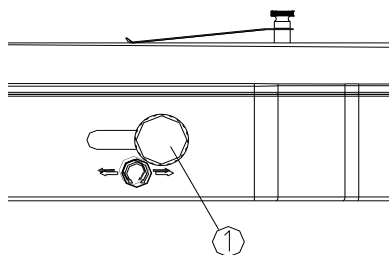

Fig. 14
1) Adjusting the adjustment knob (1) of the reflector (See Fig. 14), can change the reflector surface, also can change the lighting range after reflected.
2) The adjustment knob (1) of the reflector can be moved front and rear according to the arrowhead direction, to achieve different lighting effects.